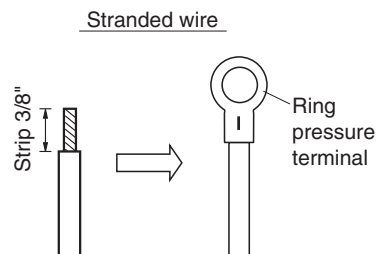

Fig. 4-1
- (1) Cut the wire end with a wire cutter or wire-cutting pliers, then strip the insulation to expose the stranded wiring about 3/8". (Fig. 4-1)
- (2) Using a Phillips head screwdriver, remove the terminal screw(s) on the terminal plate.
- (3) Using a ring connector fastener or pliers, securely clamp each stripped wire end with a ring pressure terminal. (Fig. 4-1)